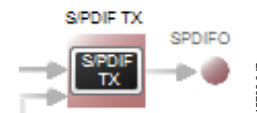

Figure 47. Confirming that the DSP Core Outputs are Routed to the S/PDIF Transmitter
- d. Confirm that the setting has taken effect by verifying that the color of the **S/PDIF TX** box has changed from gray to black (see Figure 47). If the color of the box changes to black, the DSP core has been routed to the S/PDIF transmitter; therefore, the output of ASRC 0 can be used in the DSP program.